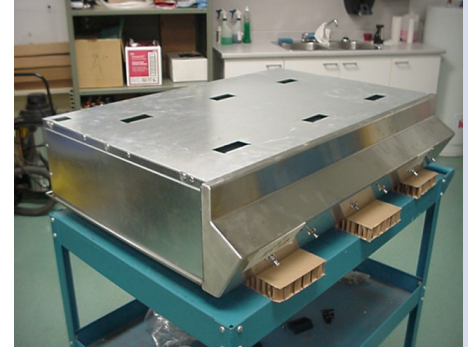

Figure 1
- 3. Turn the cooktop upside down on the counter or another table. TAKE CARE to put something to protect the counter and the cooktop when turning it upside down. (Figure 1) Placing the electric cooktop in this position will help you work on it.